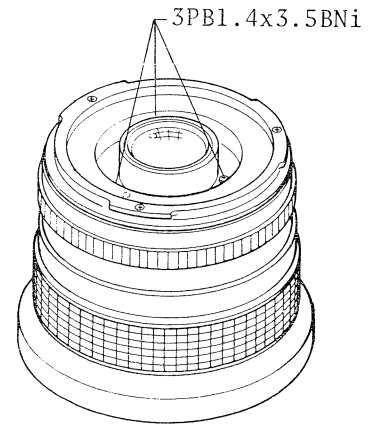

Fig.17
- 4) Loosen three 3PB1.4x3.5BNi screws as shown in Fig. 17.